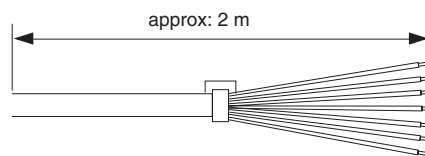

Fig. 1
- Connect the power cables to terminals U1, V1 and W1, in accordance with IEC 600034-1 (see section 4.2 - fig. 1).
- Connect the motor ground to earth (see section 4.2 - fig. 1).